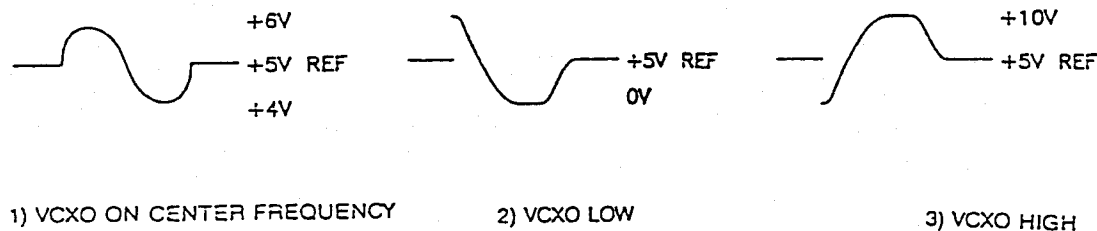

FIGURE 3-7. TP1 Phase and Amplitude Indications.
c. SYNCHRONOUS DEMODULATION. The amplified modulation signal received at U3, pin 3 is subsequently demodulated at a 127 Hz rate. See Figure 3-3,  $f_m$ . The resulting demodulated output (U3, pin 4) can be observed at TP1 on the flex board. See Figure 3-7. The TP1 output signal is the result of synchronous demodulation and contains both phase and amplitude information, indicating whether above, below or "on" the rubidium frequency. The further amplified signal received at U3, pin 2 is demodulated at a 254 Hz rate. See Figure 3-2,  $2f_m$ . The resulting output (U3, pin 15) is a positive 1/2 cycle of the 254 Hz,  $2f_m$ .